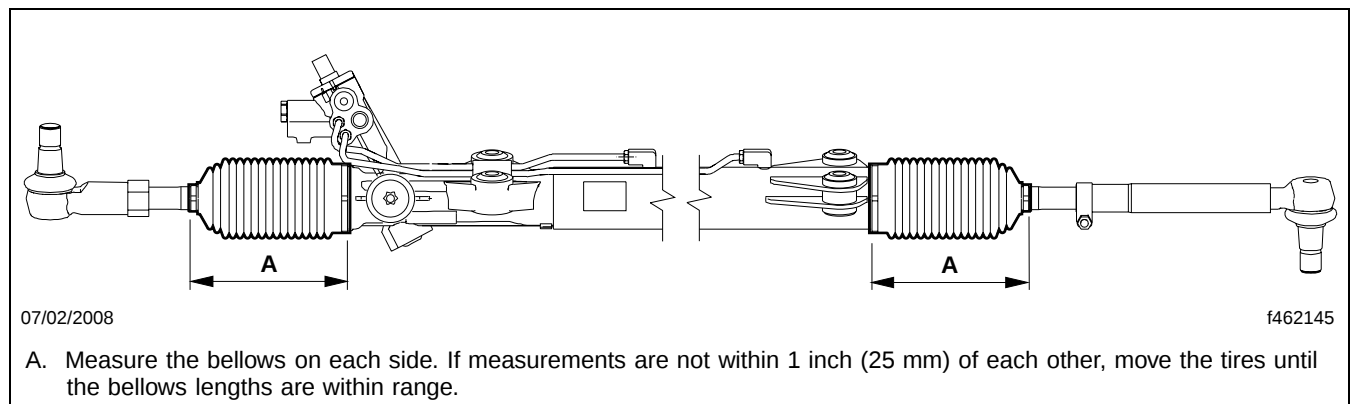

Fig. 13, Measuring the Tie Rod Bellows
- 51.1 Measure the length of the bellows from clamp to clamp on each side of the gear. See **Fig. 13**. If measurements are not within 1 inch (25 mm) of each other, move the tires until the bellows lengths are within range.